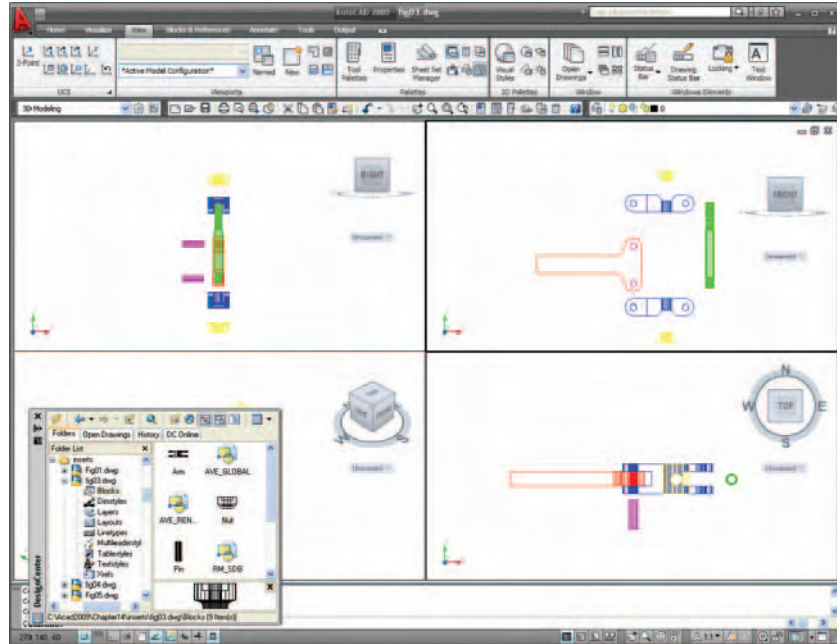

Fig. 14.3 First example – inserting 3D blocks
6. Drag and drop the blocks one by one into one of the viewports on screen. Figure 14.3 shows the **Nut** block ready to be dragged into the **Right** viewport. As the blocks are dropped on screen, they will need